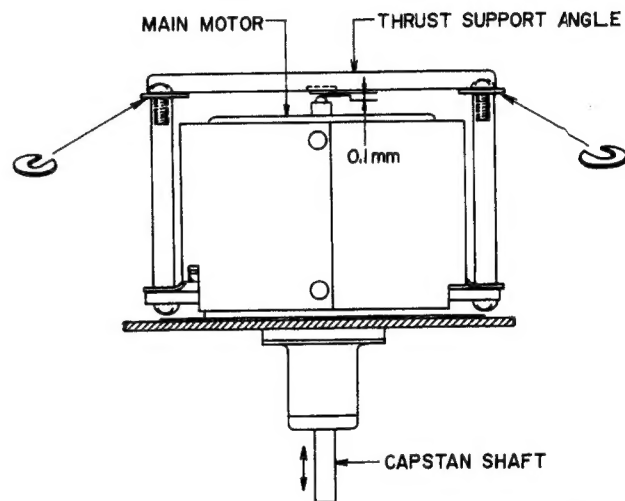

Fig. 4
5. CAPSTAN SHAFT LOOSE PLAY ADJUSTMENT (Refer to Fig. 4)